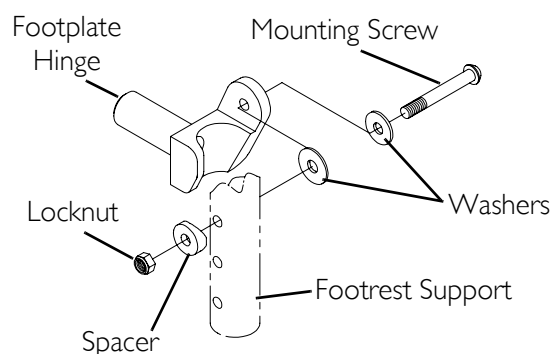

FIGURE 7.1 Installing Adjustable Angle Flip-Up Footplate Hinge
NOTE: For this procedure, refer to FIGURE 7.1.
2. Position mounting screw, washers, spacer, and locknut on the footrest support as shown in FIGURE 7.1.